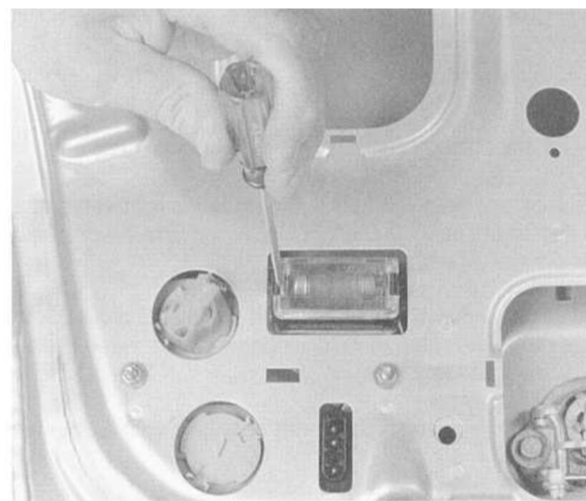

Fig. 11. Trunk light lens being removed.
3. Use a screwdriver to carefully pry off trunk light lens and replace the bulb. See Fig. 11.